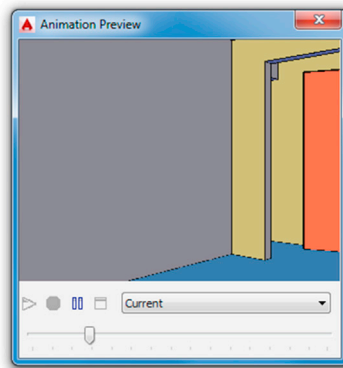

FIGURE 29.26 Animation Preview.
- Step 4.** Finally, select the Visual Style, Format, and Resolution and press `Preview...` A preview window appears and runs through the animation, as seen in Fig. 29.26.